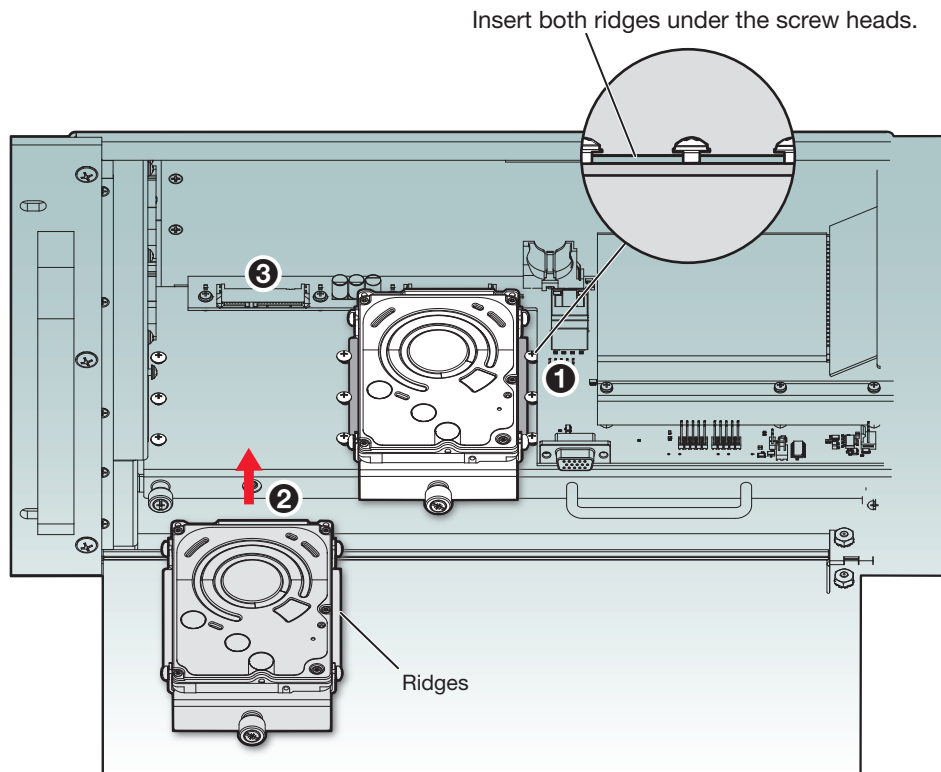

Figure 2. Inserting the Hard Drives
4. Insert the replacement drive so that the right and left edges pass under the inside edges of the three screws on the right and left sides of the drive (see figure 2, ❶, on the next page).
5. Continue pressing the drive into its space until it stops. The pins on the back edge of the drive (see figure 2, ②) should insert into the receptacles on the board at the back of the compartment (③).